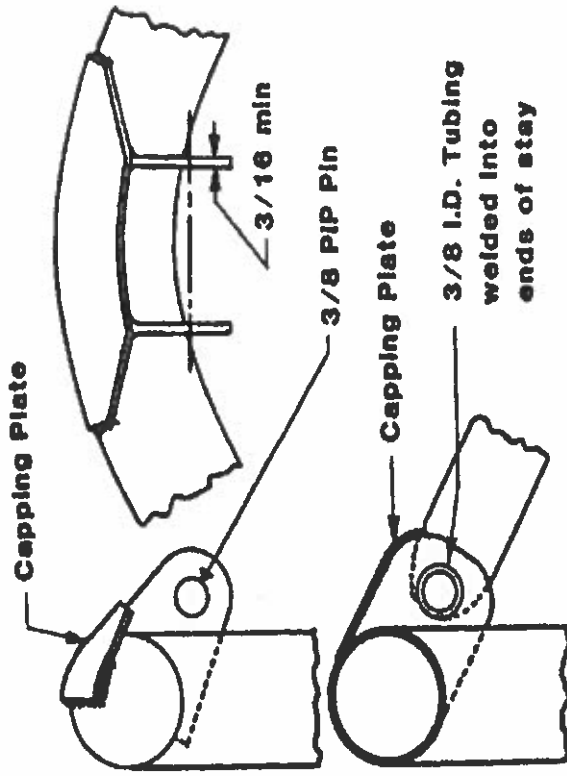

FIGURE 9
Removable bracing shall incorporate connectors of the double lug, tapered, or muft-type as shown in Figures 9, 10, and 11. The double-lug type shall include a doubler, gusset, or capping arrangement so as to avoid distortion or excessive strain caused by welding.
C. Removable bracing must incorporate connectors of the double-lug, tapered, or muff-type as shown in Figures 9, 10, and 11. The double-lug type must include a doubler, gusset, or capping arrangement so as to avoid distortion or excessive strain caused by welding.
B. All cars must have at least two (2) roll over structures, but the use of titanium is prohibited.